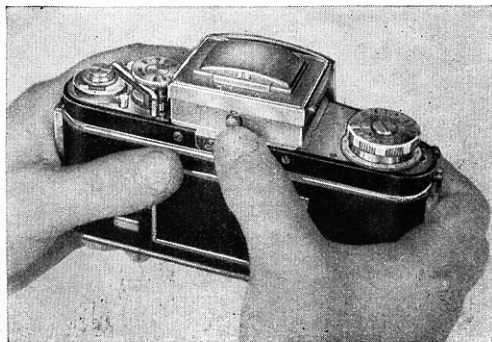

Fig. 7
Pressure on the catch (16) automatically opens the Finder Hood (11) (Fig. 7). You will find a detailed description of its employment and the various possibilities for observing the image in section E (page 18). Here are just the most important features: The ground glass image is always precisely the same as the future photograph. Therefore, the ground glass image is the decisive factor for all operations that lead to taking the picture: composition, choice of frame, critical focussing, setting the diaphragm; even the degree of brightness of the ground glass image permits determining the exposure time fairly accurately. — If there is no image visible in the Finder Hood, the film transport lever (6) has to be wound once, clockwise, as far as it will go (Fig. 8). Do not let the lever, spring back suddenly but soften the retrograde movement with your left thumb.